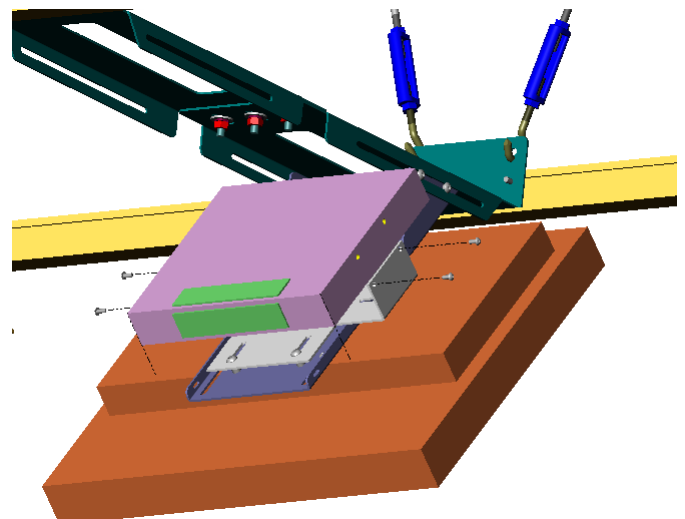

Figure 11. H Box Installation
2. Install H box (not included) on H box bracket (not included) secure using four screws (not included) (see Figure 11).